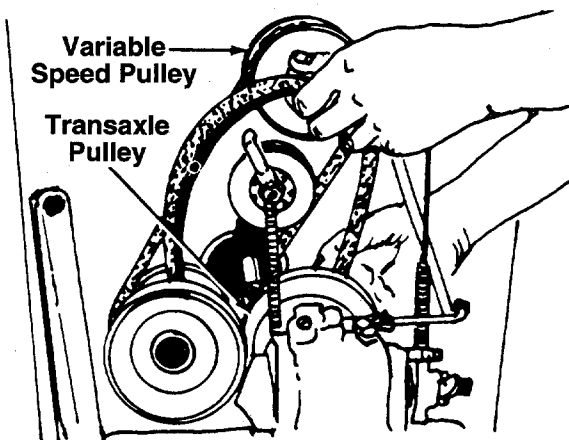

FIGURE 17.
6. Slip the "V"-belt off the variable speed pulley and transaxle pulley. See figure 17.